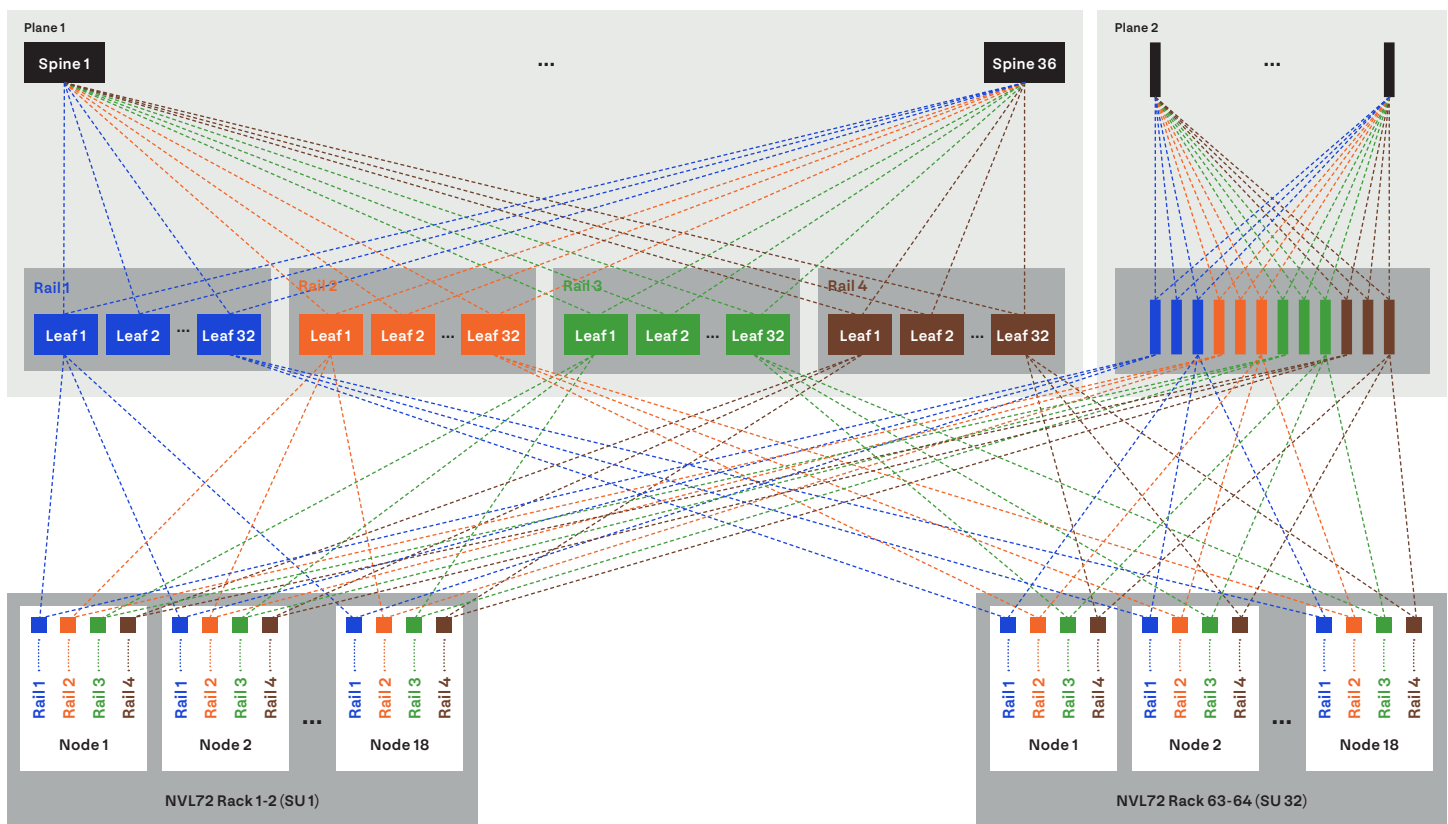

Figure 34. Example of 4,608 GPU Compute Fabric GB300 Ethernet, Dual-Plane Topology utilizing a Two-Tier architecture.
- Based on the number of GPUs being deployed, a **Two-Tier (Leaf-Spine)** or **Three-Tier architecture (Leaf-Spine-SuperSpine)** can be implemented. See Figures 34 and 35 as reference.